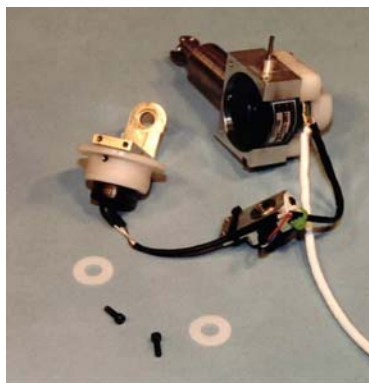

Figure 17.5- DGSP separation
4. Carefully separate the Rotary Potentiometer #1, DGSP Right Arm and String Potentiometer Assembly (T1DPM300) from the DGSP yoke left arm, as shown in **Figure 17.5**. Two Teflon washers will fall off the lower trunnions of the string potentiometer assembly.